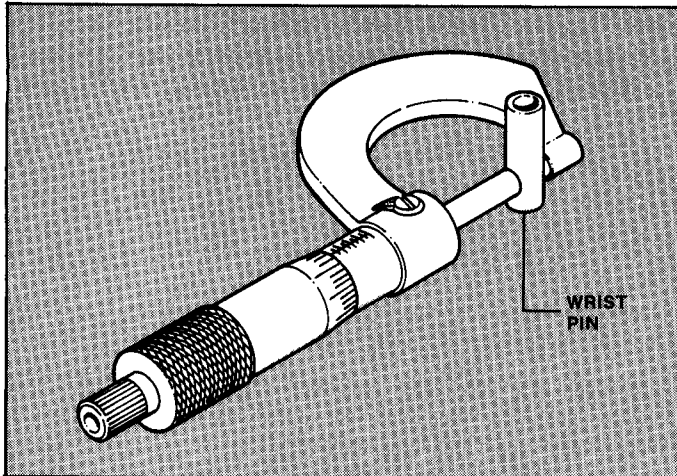

FIGURE 2.18
2. Measure the outside diameter of the wrist pin with a micrometer. See Figure 2.18.